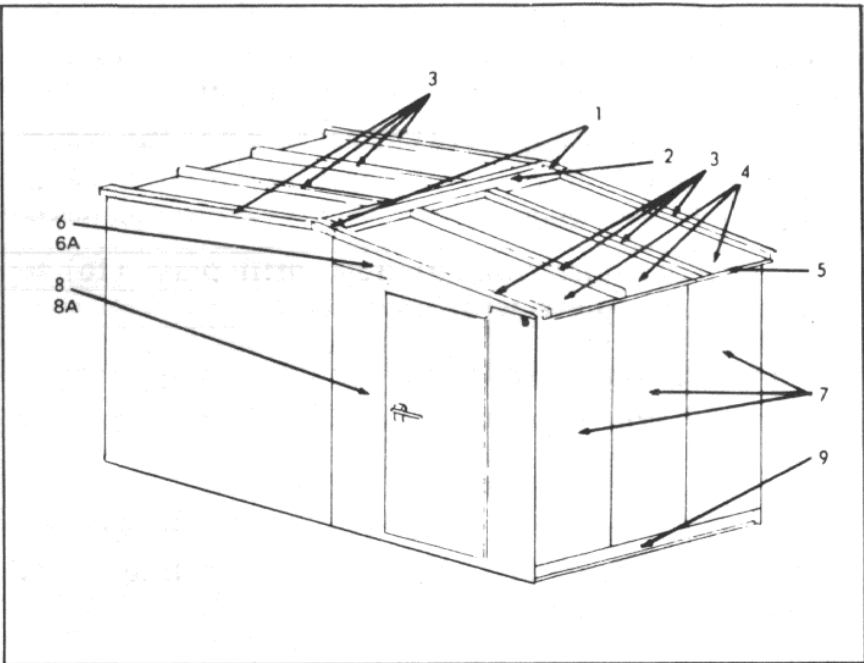
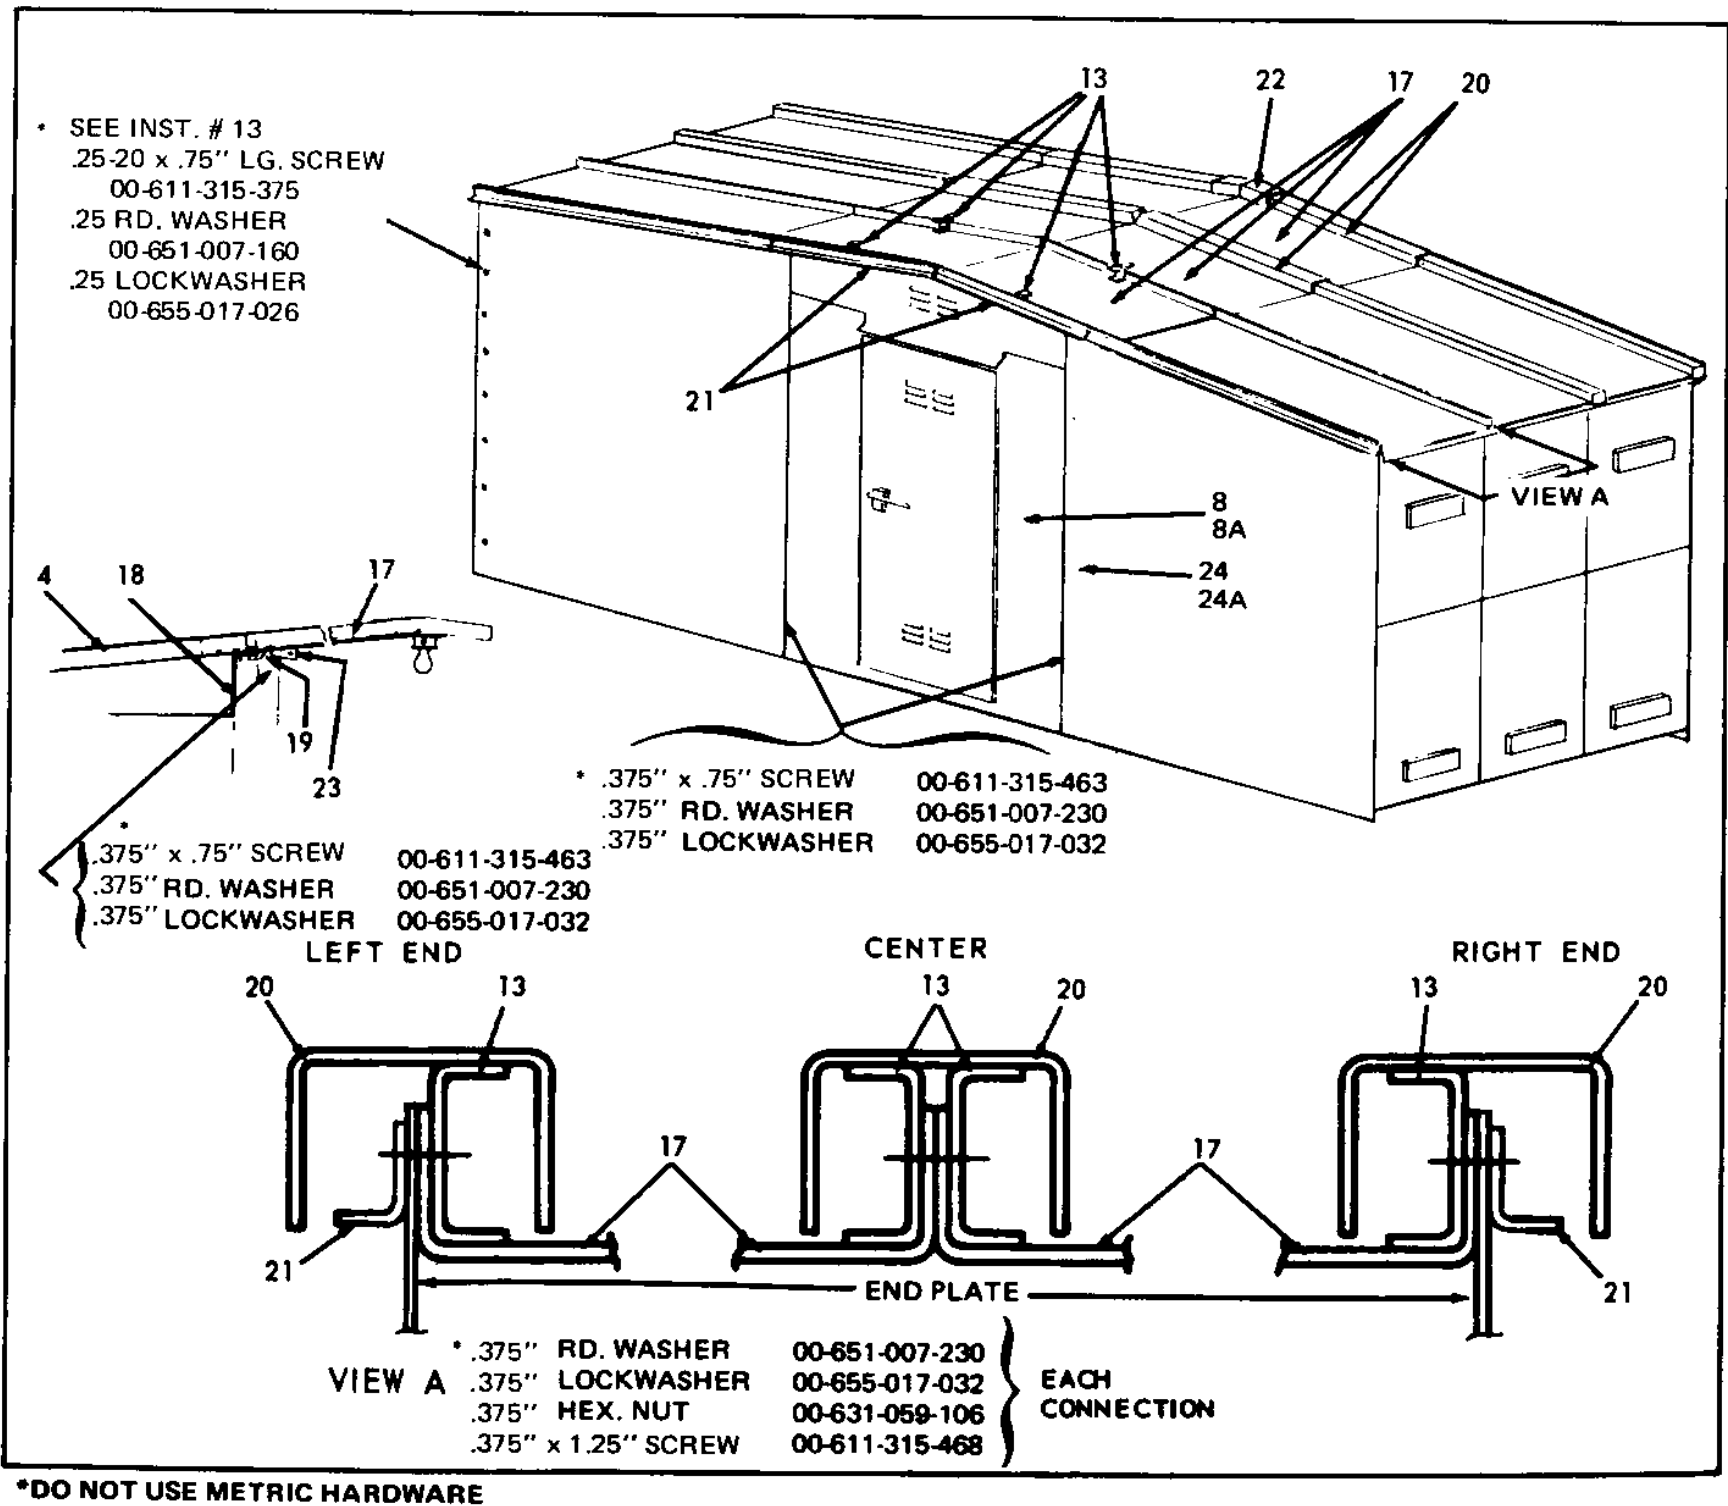

Figure 44. Removing Components from Existing Switchgear
Figure 46. Roof Installation
1. See Figure 44. From the existing switchgear remove the gable ends (1), and roof gable (2). Discard these parts.
2. Remove the roof channels (3), roof covers over aisle (4), formed cover (5) and all associated hardware. On 5 KV switchgear save all these pieces. On 15KV switchgear save only the cover (5) and associated hardware.
3. Remove and discard plates (6 and 6A) from above the door, each end, but retain filter (11).
4. Remove front plates (7) by unbolting from door frames (8 and 8A) and from I-Beam (9). Discard plates (7).
8. Install adaptor floor plates (12) between the new units and the I-beam (9).
9. Mount roof covers (4) on the new units, bolting together using special channel brackets (13) similar to the aisle construction just disassembled.
10. Add trim angle (14) at each end of the group. (On 15 KV equipment items 4, 13 and 14 are shipped assembled).
11. When installing conduit, drill plate (15) to suit. Clamp plate with angle (16).
12. See Figure 46. Place aisle roof decks (17) in position. Bolt them to the roof support (18) using bevel washers (19). See inset.
13. Bolt roof decks (17) together with brackets (13). See view "A". Leave hardware finger tight until Step 15 is complete.
14. Set channel-shaped covers (20) over the joints of roof decks and slide up the covers so the clips on the inner surface (See Figure 46) engage the brackets (13).
15. Add trim angle (21) to each end of the aisle. Tighten bolts.
16. Bolt hoods (22) over the roof channels.
17. Add four covers (23) to seal crack between top of door frame (8) and end plate (24 and 24A) joint. Mount light as shown.
1. Remove end gable assembly (1, Figure 44) from single aisle equipment. Remove the end hood (22, Figure 46) if switchgear has a common aisle.
2. Remove the channel-shaped covers (20) over roof joints from both aisle and switchgear unit. Do this by removing hardware from peak end of the
13. Mount unit side plate and using side plate as template drill #7 (.201") (5.1 mm) dia. holes in back frame angle of new cubicle. Using .25-20 (do not use metric tap) tap cut threads in these holes. Add and secure hardware (see Figure 46). The addition of these holes may be omitted if existing cubicle had vertical corner trim angle in which case side plate would not have these extra holes.